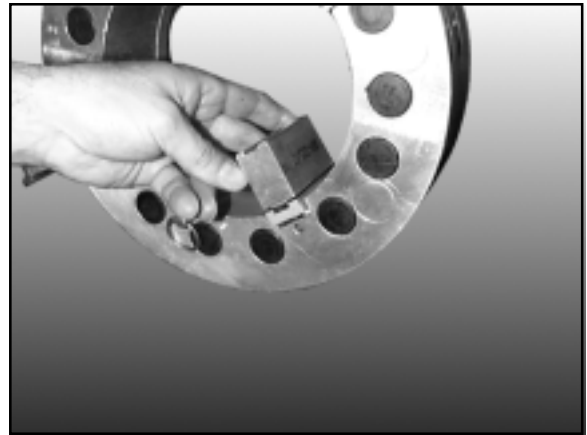

FIGURE 3
10. Measure the O.D. of the pipe to be machined and determine whether clamp pad extensions will be necessary. (Refer to the clamp pad extension chart, pages 22, 23). If clamp pad extensions are required, install them at this time (Figure 3). Part number and range is stamped on every leg.